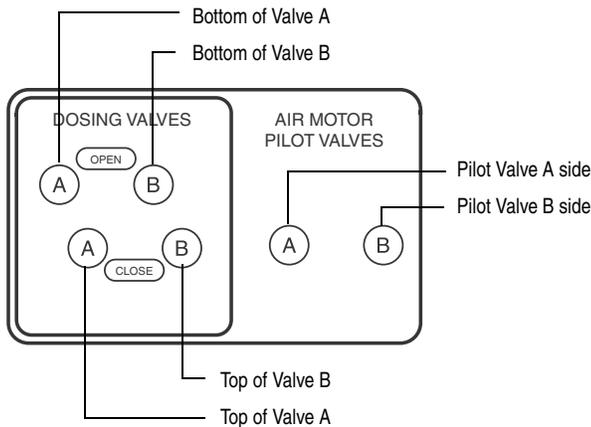

FIG. 6: Control Box - bottom
3. Cut air line tubing (included) to length needed to connect between metering valves (601) and solenoid outlets. FIG. 3, page 11, and FIG. 6.
6. Connect fluid lines (provided by installer) between pumps and metering valves (601).
7. Connect mixed material hose to fluid mix manifold (607) outlet (E).
8. Cut air line tubing (included) to length needed to connect between metering valves (601) and solenoid outlets. FIG. 3, page 11, and FIG. 6, page 14.